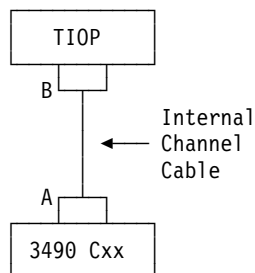

Figure 22. Tape Subsystem Cable Connections
The tape subsystem cables connect as shown in Figure 22.
- a. Disconnect the internal channel cable from the I/O device control unit (at **A** in Figure 22).
b. Disconnect the internal channel cable from the TIOP card (at **B** in Figure 22 on page 667).
c. Connect channel wrap block 2 to the TIOP card (at **B** in Figure 22 on page 667).
- c. Reconnect the internal channel cable to the TIOP card (at **B** in Figure 22 on page 667).
- d. Reconnect the internal channel cable to the I/O device control unit (at **A** in Figure 22 on page 667).